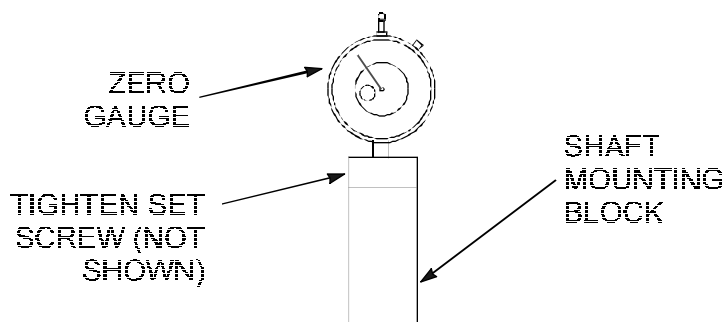

Figure 3-11. Dial Gauge Micrometer Assembly.
1. Connect the dial gauge micrometer to the Shaft mounting block as shown in Figure 3-11.